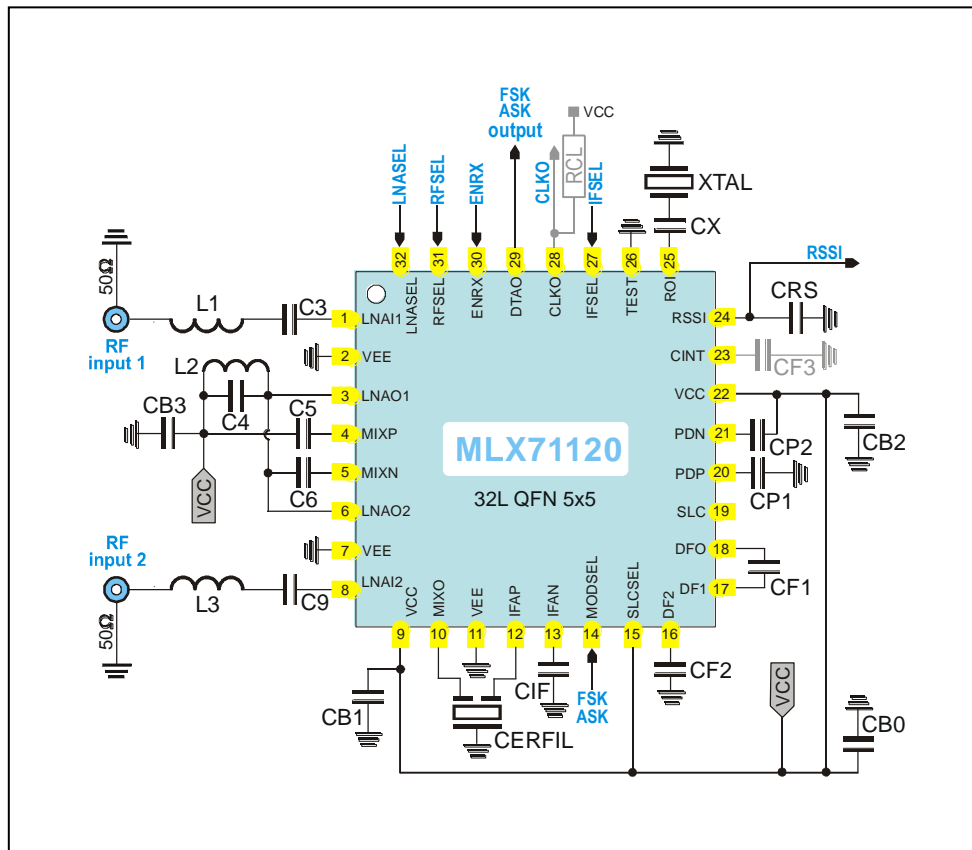

Fig. 10: Dual-channel circuit schematic, peak detectors activated
typical values at $T_A = 23\text{ }^\circ\text{C}$ and $V_{CC} = 3\text{ V}$, all parameters based on test circuits as shown Fig. 10
5.1.1. Test Circuit Component List for Figure 10